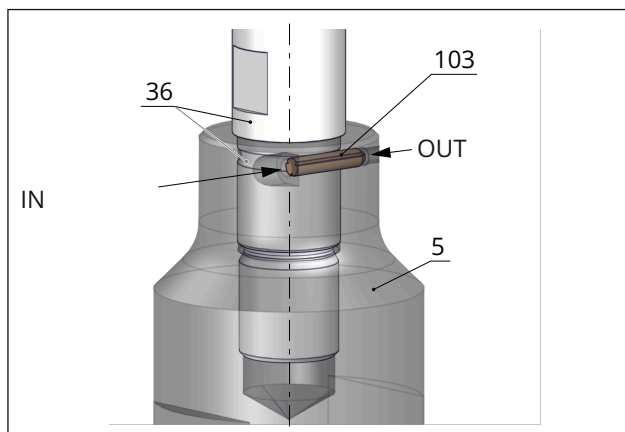

Fig. 36: Locking pin to secure plug and plug stem or piston and piston stem (schematic drawing)
The plug/piston and plug/piston stem are fastened together. To prevent the plug/piston from becoming unintentionally detached from the plug/piston stem, the connection is additionally secured by a tangentially inserted pin (see Fig. 36). To replace the plug/piston, proceed as follows:
1. Firmly clamp the plug/piston (5) into a vise.
2. Use a suitable tool (mandrel) to drive the locking pin (103) out of the plug or piston in the "OUT" direction (see Fig. 36).
3. Unscrew the plug/piston stem (36) from the plug or piston (5) using a suitable tool.
5. Firmly clamp the new plug/piston (5) into a vise using protective jaws. Make sure that the plug/piston is not damaged by the vise.
6. Screw the plug/piston stem (36) into the plug or piston (5) and tighten using a suitable tool. Observe tightening torque.
7. Insert a new locking pin (103) into the hole in the plug or piston in the "IN" direction. Use a suitable tool (mandrel) to drive the pin in as far as it will go.